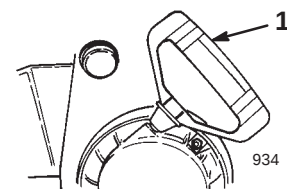

Figure 17
- **Recoil Starter** (Fig. 17)—The recoil starter is on the back side of the engine. Pull the recoil starter to start the engine.
- A. Grasp the recoil starter handle (Fig. 17) and pull it out slowly until positive engagement results; then pull the handle vigorously to start the engine.